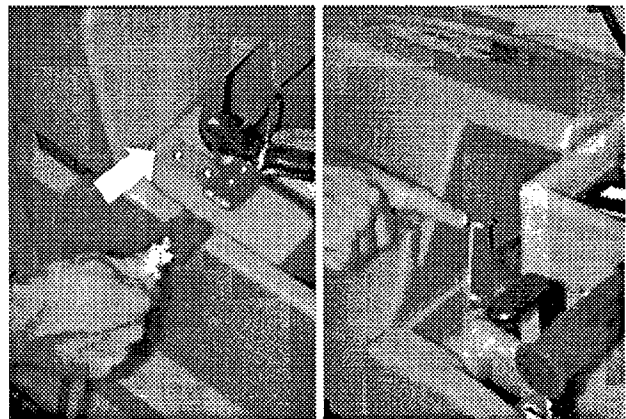

FIG. 22
5. Plug charger into charger receptacle located near battery compartment. Flip up tank support stand and rest tank on stand. (Figure 22)